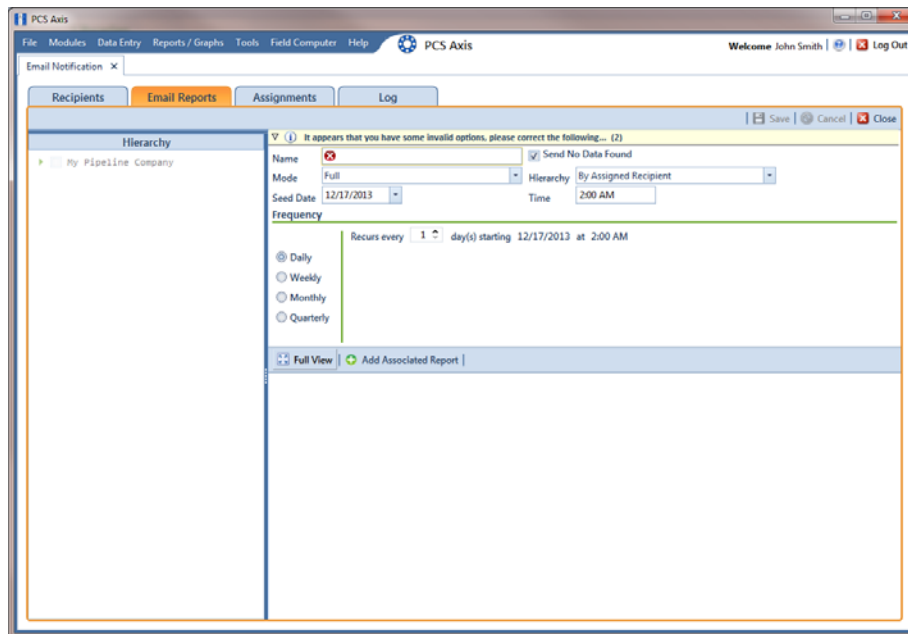

Figure 12-7. Email Reports
- 2 Click **Email Reports** , then click  **Add** (Figure 12-7).
- 3 Type a name for the email report in the **Name** field. Fields requiring information include a  red icon, such as *Name* shown in the previous example (Figure 12-7, page 502).